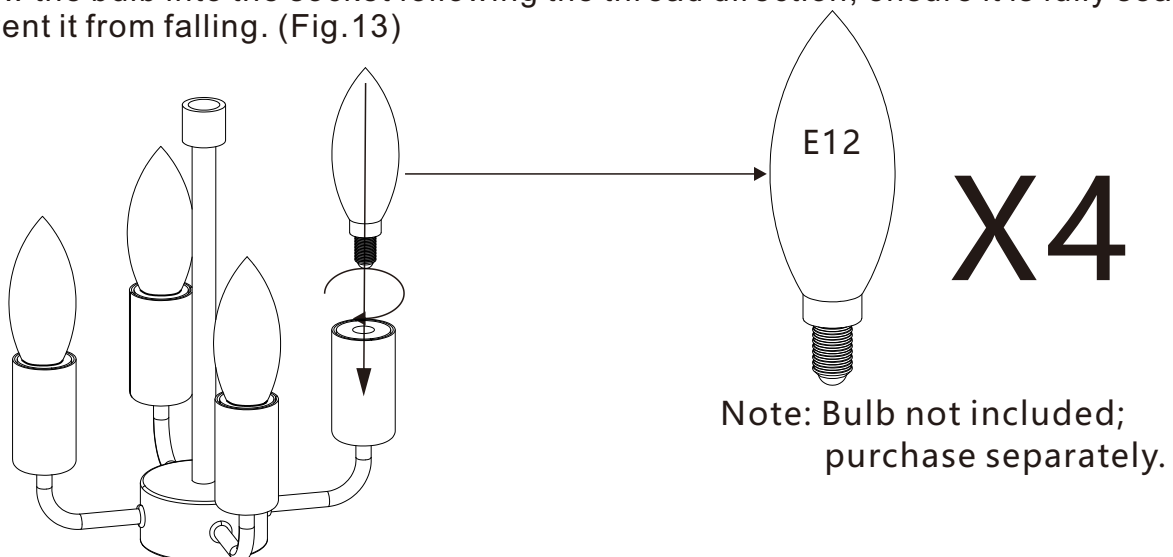

Figure 13
Step 9. Screw the bulb into the socket following the thread direction; ensure it is fully seated to prevent it from falling. (Fig.13)